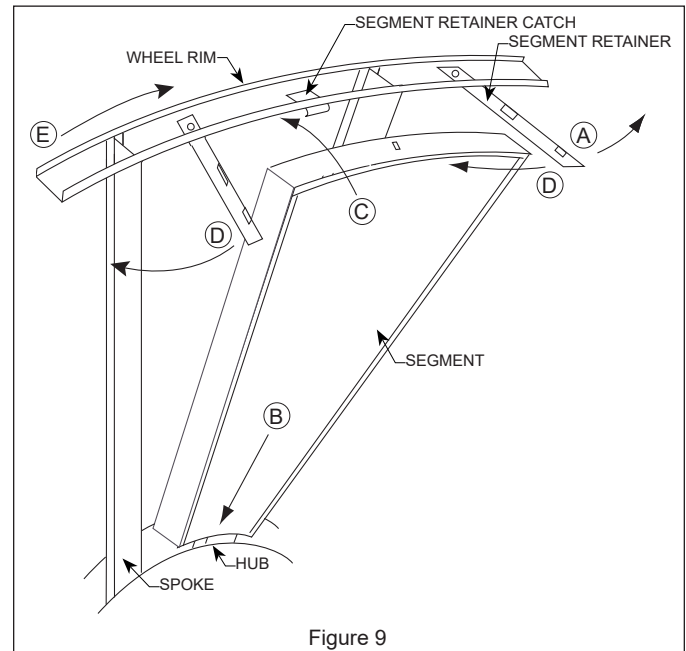

Figure 9
6. To install wheel segments, follow steps A through E. **See Figure 9.** Reverse procedure for segment removal.